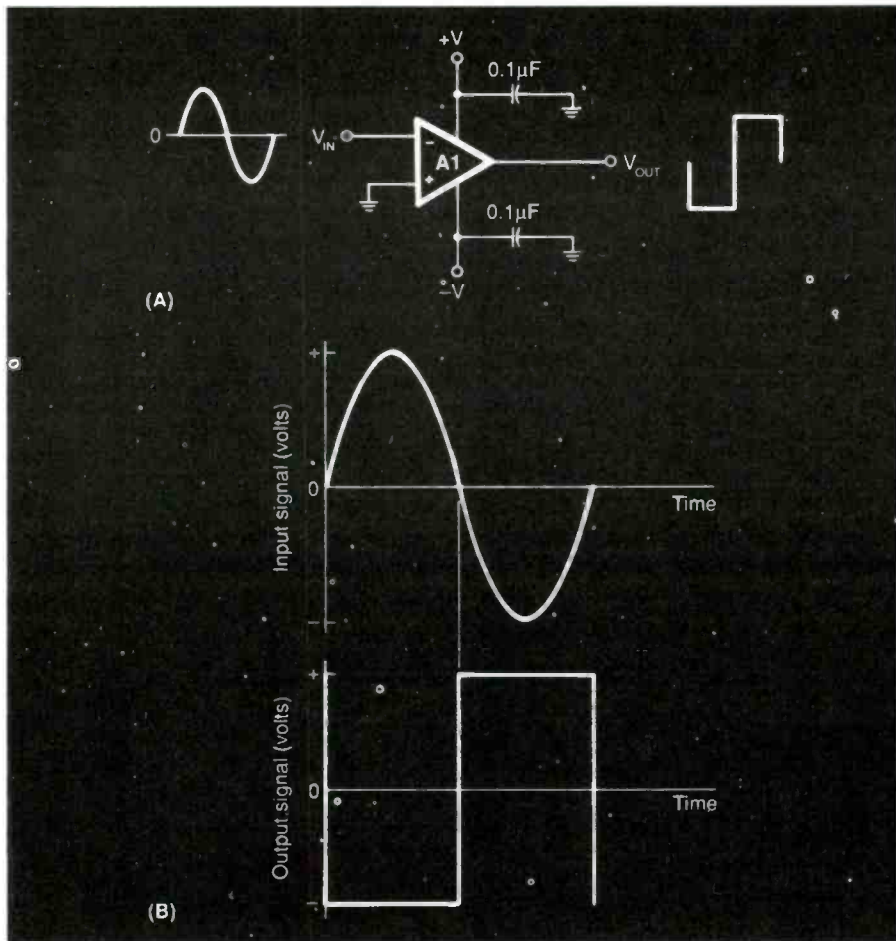

Fig. 9. (A) Voltage comparator used to make square waves from sine-wave input. (B) timing diagram waves.
Figure 9 shows a method for converting sine waves to square waves. The circuit configuration is shown in (A), while the waveforms are shown (B). The circuit uses an op amp connected as a comparator. Because the op amp has no negative feedback path, the gain is very high (A_{vol}). In op amps gains of 20,000 to 2,000,000 (250,000 typical) are frequently found. Thus, a voltage difference across the inputs of only a few millivolts will saturate the output of the op amp, which is illustrated in Fig. 9(B).